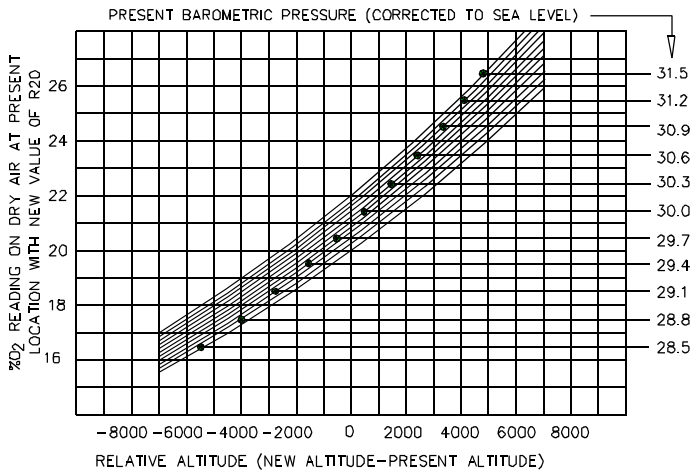

Figure 3.1 Graph for adjusting Span AOT Resistor
- c) Select the curve on the graph, Figure 3.1, (corresponding it to the present barometric pressure corrected to sea level).